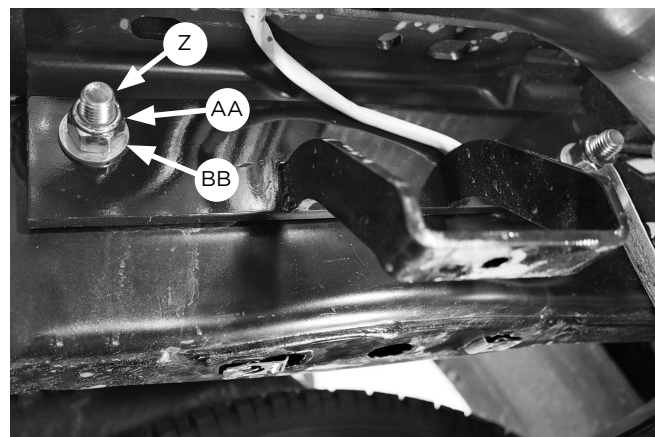

Fig. 32
- Remove the factory fifth wheel hitch hardware (if equipped), from the holes in the side of the frame. Using the existing holes in the frame, attach the upper frame brace (F) to the frame using the factory hitch hardware removed or the 5/8" (Z, AA, BB) hardware supplied (Fig. 32). Leave loose at this time.